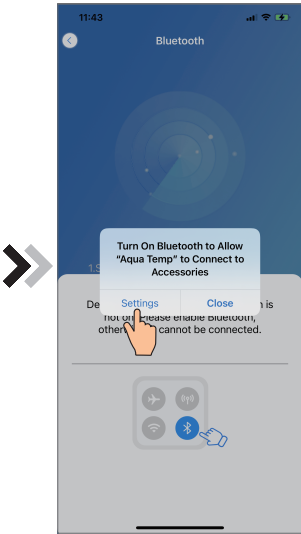
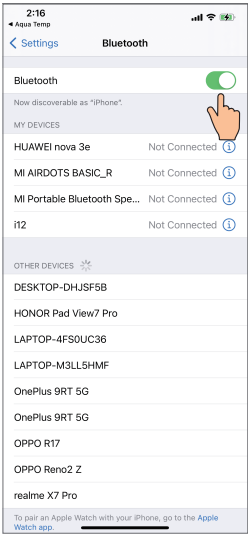

Fig.11 Enable bluetooth permission
Fig.12 Bluetooth setting interface
- 5. Click "Settings" (Fig.11) to enter bluetooth setting interface(Fig.12);